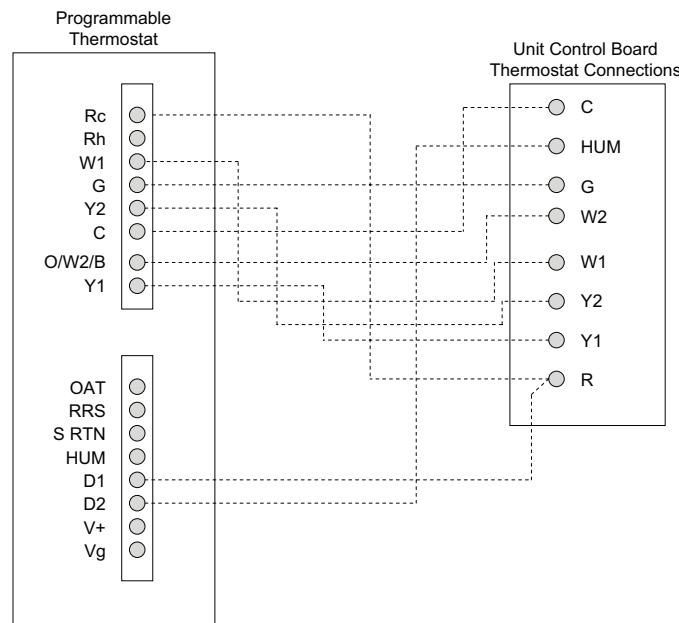

Fig. 43 — 48FE16 Unit with Humidi-MiZer Adaptive Dehumidification System with Edge® Pro Thermidistat Device**
5. The Thermidistat has dry contacts at terminals D1 and D2 for dehumidification operation (see Fig. 43). Connect D1 to the R terminal on the UCB. Connect D2 to the HUM terminal on the UCB. Refer to the installation instructions included with the Carrier Edge® Pro Thermidistat device for more information.